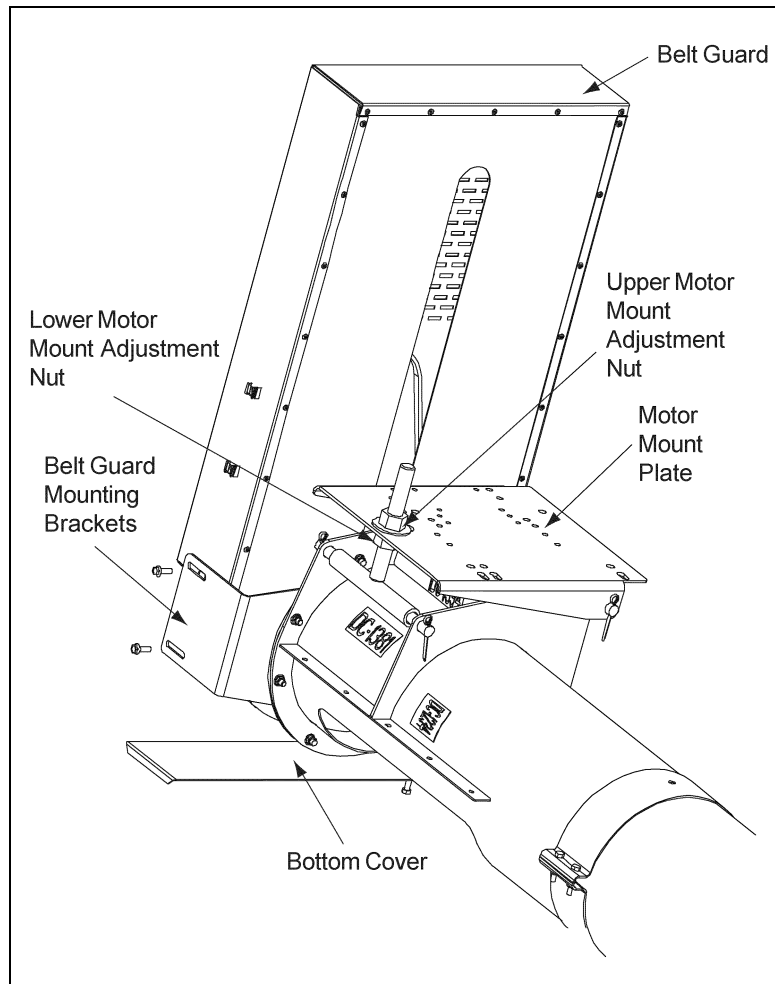

Figure 4L
- C. Align the motor shaft and the Flight Drive Shaft in the Belt Guard's slot, making sure that the Belt Guard DOES NOT contact either pulley or shaft, and tighten down the Belt Guard Mounting Brackets to the Bearing Plate. (See Figure 4L)